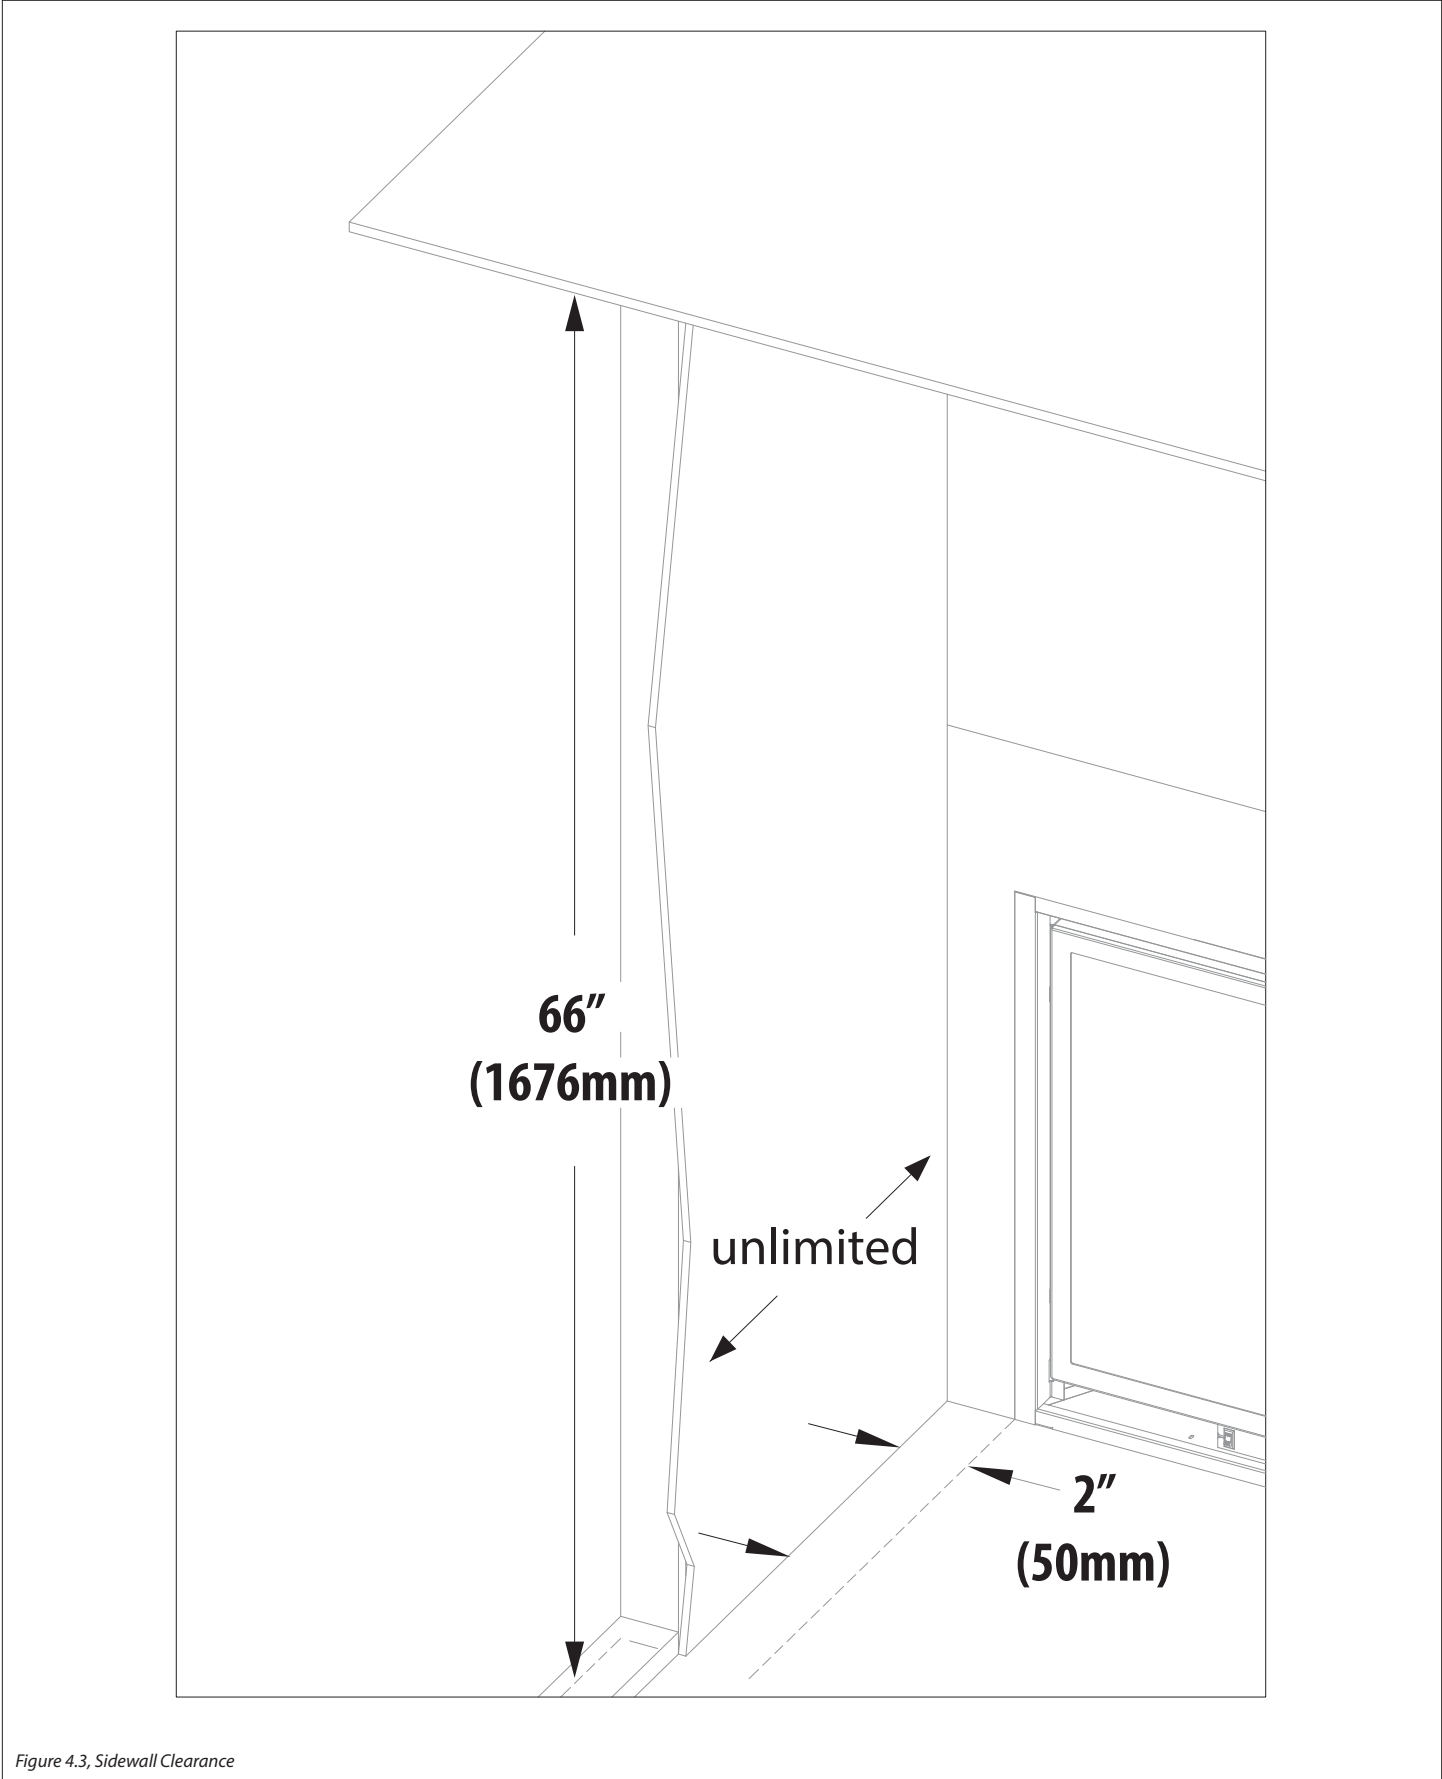

Figure 4.3, Sidewall Clearance
- The adjacent sidewall minimum clearance is 2" (50mm) from the appliance sides. See Figure 4.3 on page 25.